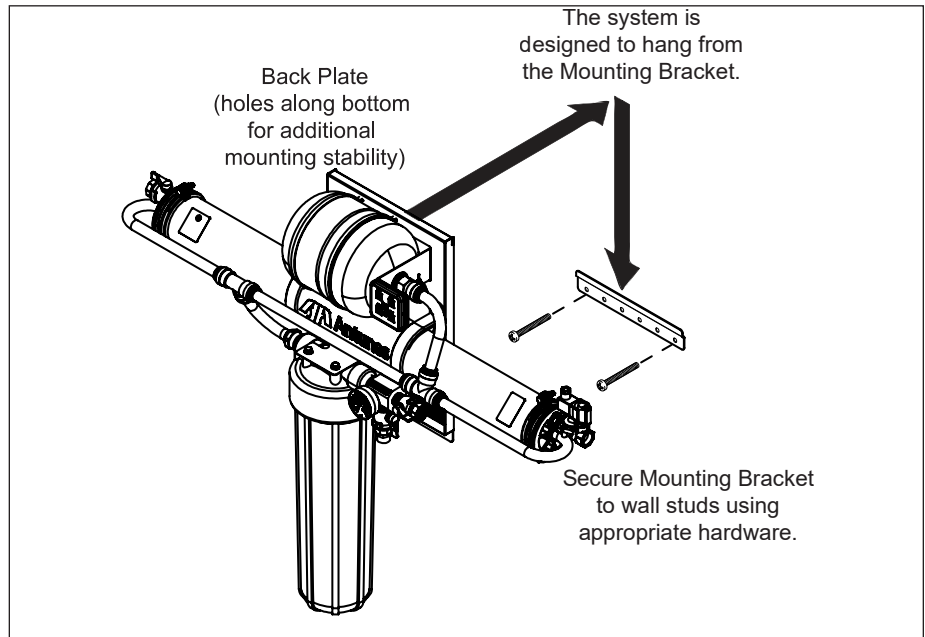

Figure 3. Mounting the System
1. Use a stud finder and level to attach the Mounting Bracket securely to the wall with the appropriate mounting hardware (Figure 3).
2. The Mounting Bracket is designed so that the VZN system can be lifted and hung on the Mounting Bracket. With assistance, lift the system and seat it onto the Mounting Bracket securely (Figure 3).